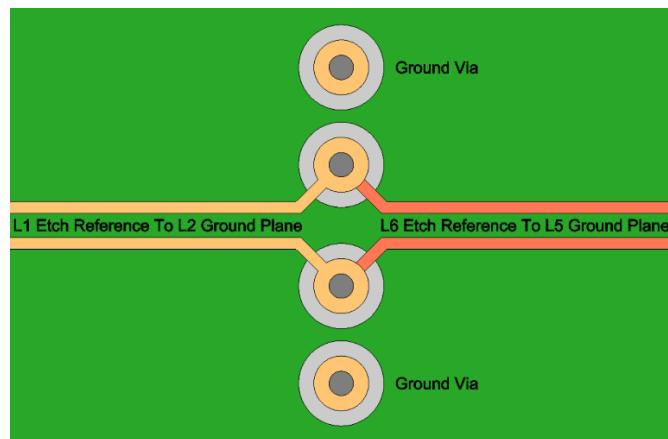
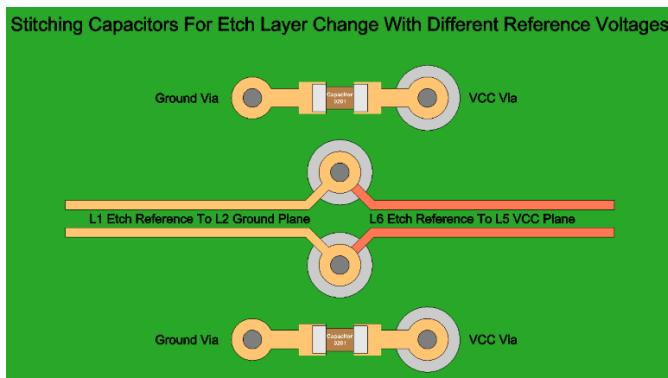

Figure 7.1. Ground Vias Implementation
Figure 7.2. Stitching Vias Implementation
5. High-speed signals that transition from one layer to another should have a corresponding transition ground if both reference planes are grounded. If the reference on the other layer is a V_{CC} plane, then a stitching capacitor should be used (ground to V_{CC}). Refer to Figure 7.1.
Layout Recommendations	Replaced Figure 7.1 Recommended Layout with Figure 7.1. Ground Vias Implementation and Figure 7.2. Stitching Vias Implementation .